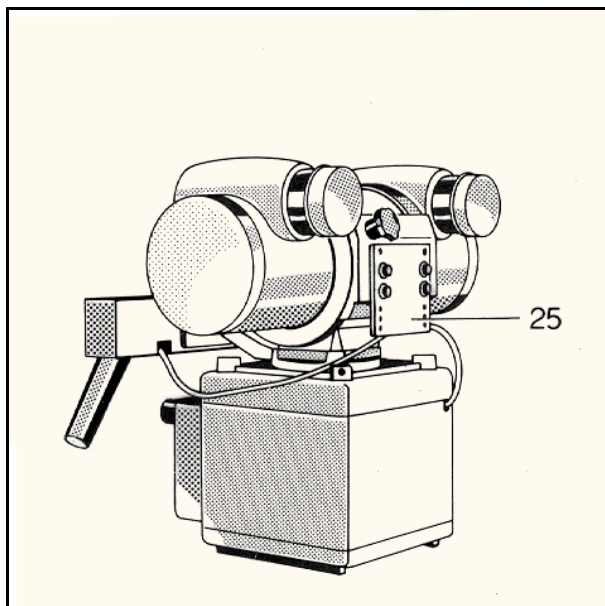

Fig. 13
Note: Move the center of gravity of the tube-collimator assembly into the tube support arm by displacing the unit vertically on the compensating plate (Fig. 13/item 25). Even though the compensating plate (item 25) is not needed, it must be mounted as a spacer plate.